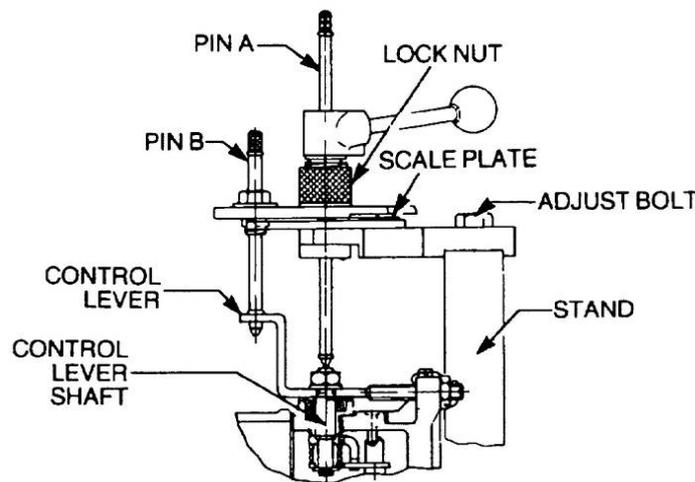

Figure 120 Positioning the Adjusting Device
- d. Move the support bracket of the adjusting device until pin A is over the centre hole of the control lever shaft (Figure 120). Secure the support bracket in place and insert pin B into the hole in the control lever.